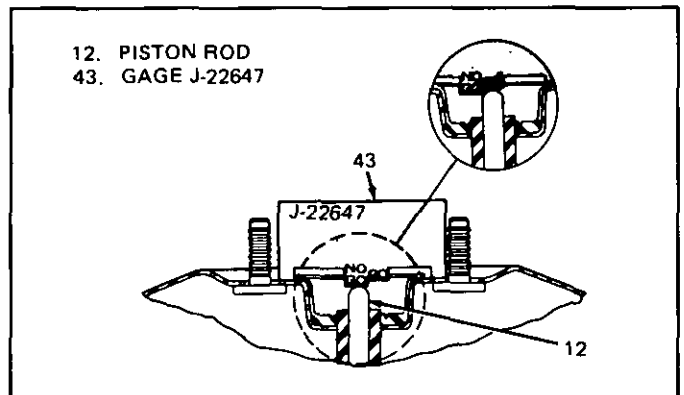

Figure 15 Gaging Piston Rod
- After assembly of booster, position gage (43) over piston rod (12) as shown in Figure 15.